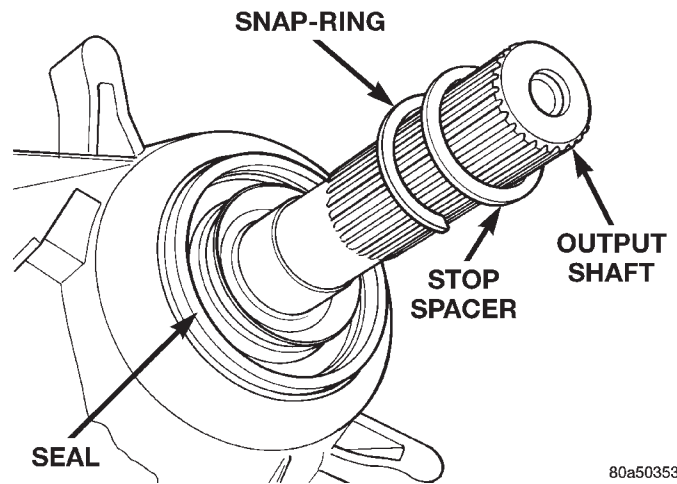

Fig. 12 Slinger Stop Spacer and Snap-ring
- (3) Remove slinger stop spacer and snap-ring from output shaft (Fig. 12).